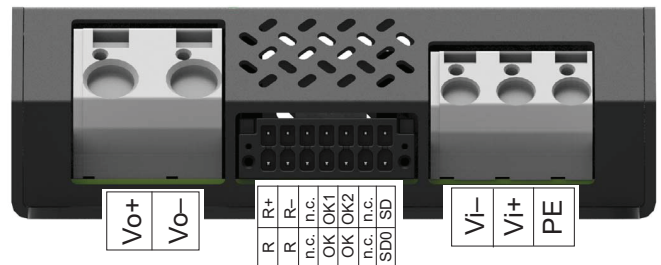

Fig. 14
- Auxiliary connector: Phoenix Contact 1713883; pin allocation see fig. 14.